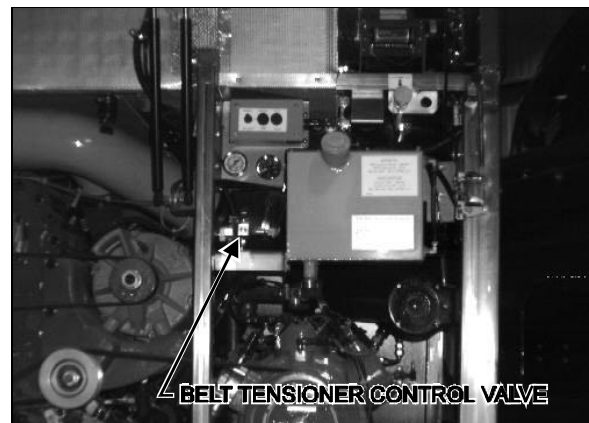

FIGURE 19: ENGINE COMPARTMENT REAR DOOR 05035
1. Locate the belt tensioner two-way control valve (Fig. 19), and turn handle counterclockwise in order to release pressure and tension on belts.